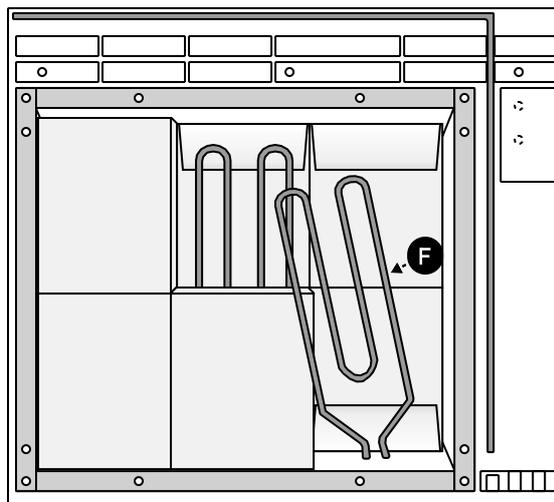

Figure 4 | Installing the stones
12. Gently tip the elements (**F**) outwards. Do not remove elements. (**Figure 4**)
13. Fill the back of the core chamber with the radiator stones, ensuring that the stones are in the correct order and position. The grooves (**G**) on the back layer should face the element (**F**). (**Figure 4**)
15. Fill the front of the core chamber with the remaining radiator stones, ensuring that the stones are in the correct order and position. The grooves (**G**) on the front layer should be arranged as in **Figure 4**, with the grooves located at the top and bottom, facing the element. (**Figure 4**)